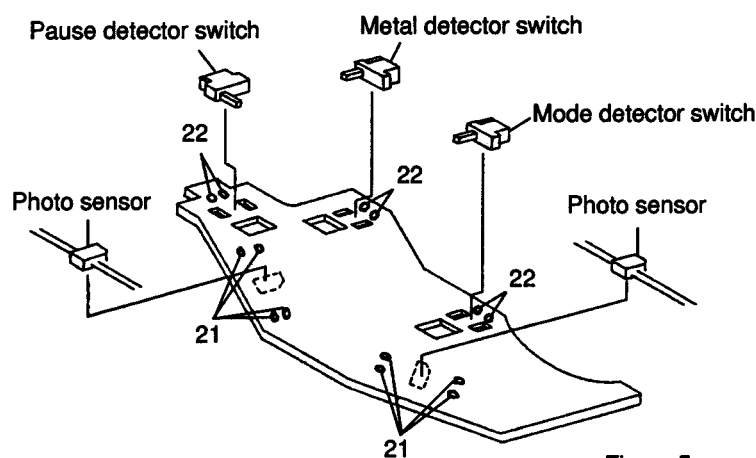

Figure 5
② 口開き、めくれのない様に注意して下さい。
③ プラネットギアの挿入忘れ、不足のないこと。
- (1) Remove eight solders 21 as shown in Figure 5.
- (2) Remove the photo sensor from the photo P.C.Board as shown in Figure 5.
- (3) Solder the legs so that the photo sensor is set as indicated by [] in Figure 5.
② Take care that the solder is not loose, that there is no shortcircuit and that the coating is not damage.
- (1) 8ヶ所の半田21を外し、フォトセンサーをフォト基板より外します。(図5参照)
- (2) 良品のフォトセンサーを図中の[]と同じ方向になる様に半田付けします。(図5参照)
- (1) Remove six solders 22 with which the switch is fixed as shown in Figure 5.
② Take care that the switch guide is properly fixed and straight.
- (1) スイッチを止めている6ヶ所の半田22をそれぞれ外します。（図5参照）